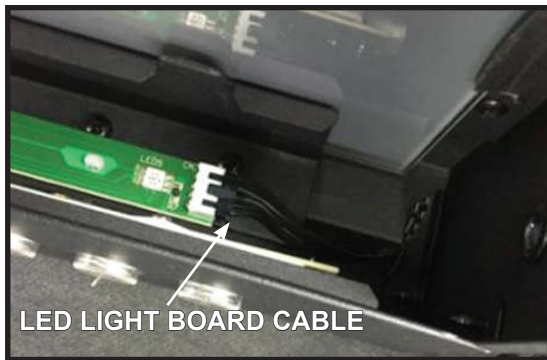

Figure 8. LED Light Board Cable
2. Locate the Fuelbed LED Light Board cable. See Figure 8.